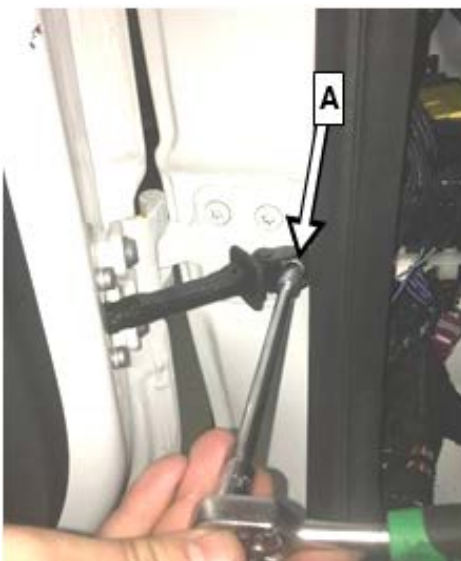

Figure 2
3. Unscrew door check strap screw **(A, figure 2)** at the A-pillar.